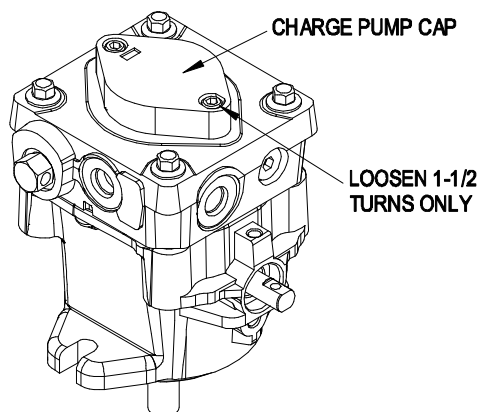

FIGURE 9
- g) If either drive wheel does not rotate, one or both of the charge pumps (located on the top of the main pump as shown in Figure 9) may have lost their “prime”. Refer to Section 5.1.10.
Air must be purged from the hydraulic system when any hydraulic components, including oil filter, are removed or any of the hydraulic lines are disconnected. The critical area for purging air from the hydraulic system is between the oil reservoir and each charge pump located on the top of each variable displacement pump. (See Figure 9).